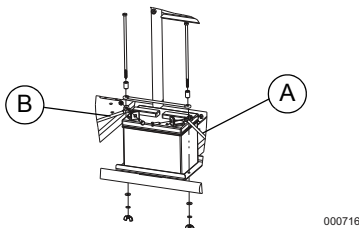

Figure 2-11. Battery Installation
- Install the battery as follows. See Figure 2-11.